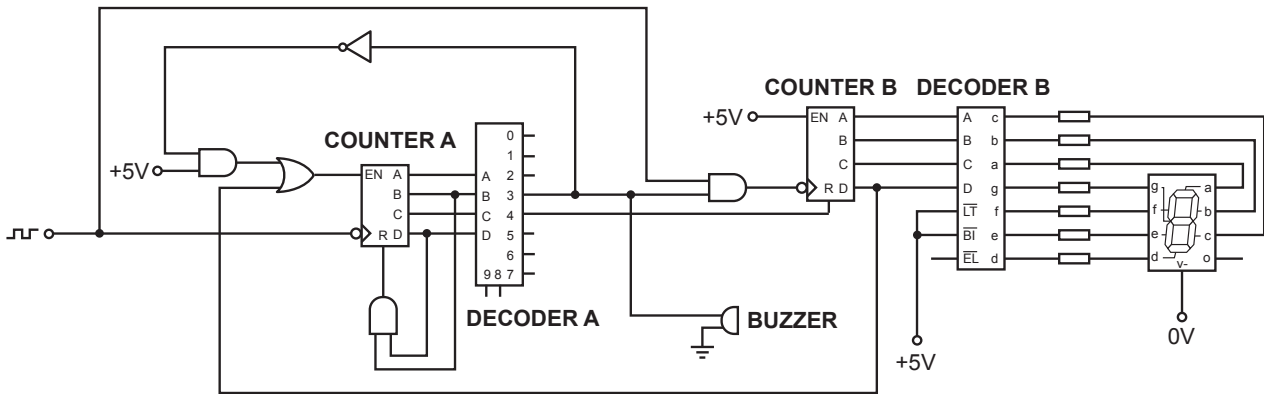

Figure Q6
6. An Engineer is investigating the circuit shown in Figure Q6 to determine its suitability for use as part of a counter/display control system.